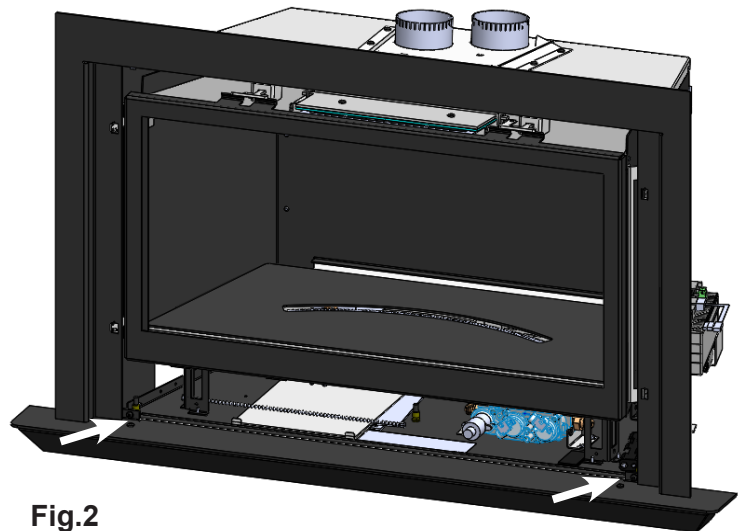

Fig.2
2. Center Shroud Shelf on front of unit and align x2 mount holes; once in position, fasten shelf to unit. **(Fig.2)**